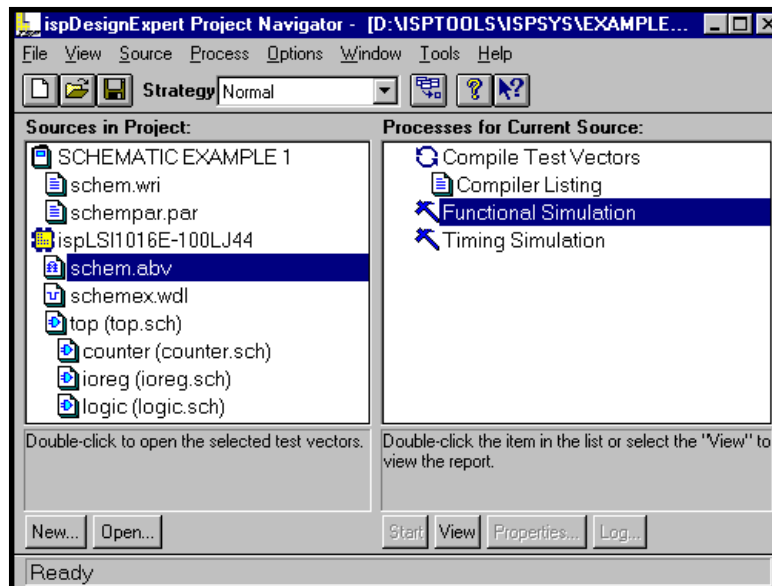

Figure 2-1. Start the Lattice Logic Simulator
1. Select the ABEL-HDL test vector file (.abv or *design-vectors*) or the waveform stimulus file (.wdl) from the Sources window of the Project Navigator. The associated processes appear in the Processes window (Figure 2-1).